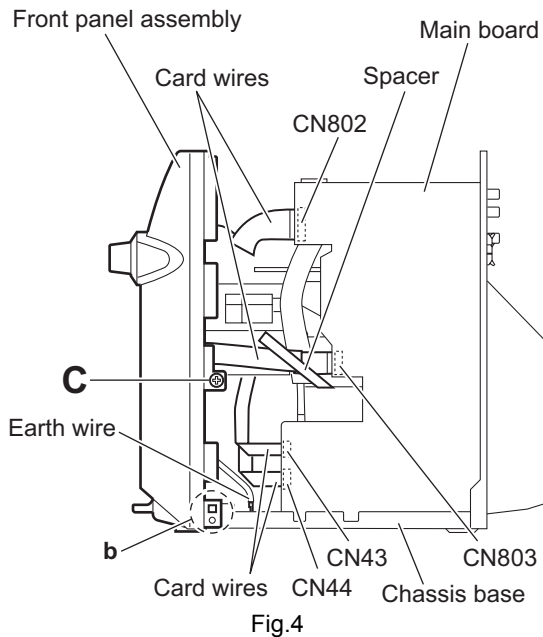

Fig.4
3.1.2 Removing the front panel assembly (See Figs.4 to 7)
(1) From the right side of the main body, disconnect the card wires from the connectors (CN43, CN44, CN802, CN803) on the main board. (See Fig.4.)
After connecting the card wire to the connector CN803 on the main board, fix it with the spacer as before. (See Fig.4.)
(2) Disconnect the earth wire from the chassis base. (See Fig.4.)
(6) From the both sides of the main body, remove the two screws C attaching the front panel assembly. (See Figs.4 and 6.)
(8) Release the joints b of the front panel assembly from the chassis base and remove the front panel assembly in the direction of the arrow. (See Figs.4, 6 and 7.)